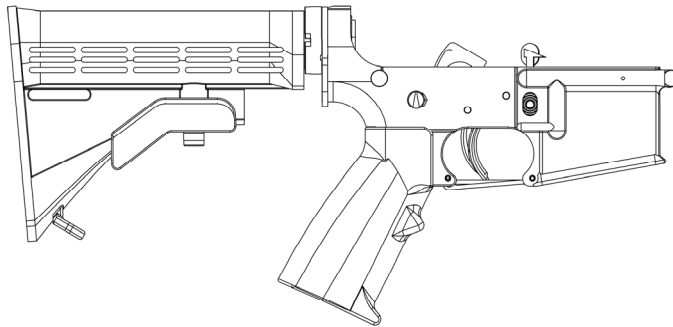

Figure 15.
2. The lower assembly (Figure 15).